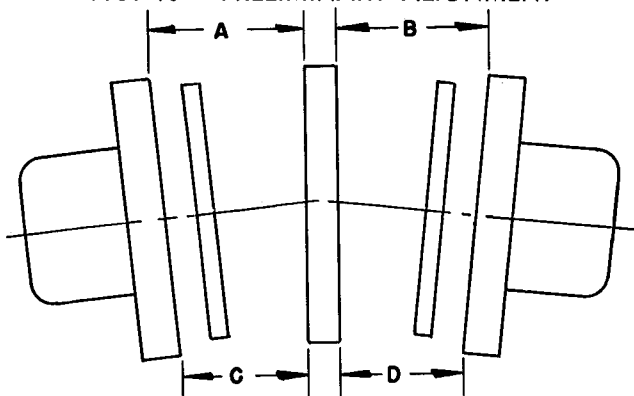
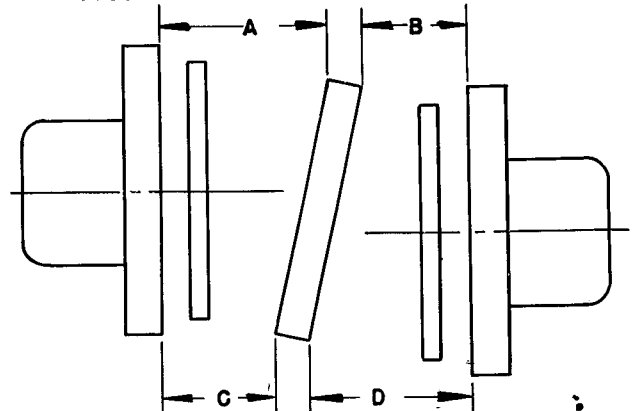

FIG. 11 — ANGULAR MISALIGNMENT
FIG. 12 — PARALLEL MISALIGNMENT
(K) If dimensions "A" and "B" are not equal to "C" and "D" angular mis-alignment exists as in Fig. 11. If dimensions "A" and "D" are not equal to "B" and "C", there is parallel mis-alignment as in Fig. 12. All measurements are made at the outside diameter of the flanges, using a caliper and steel rule. To correct either of these conditions, move and/or shim the motor or compressor as required. Since the compressor will be bolted and doweled to the steel base, it is suggested that only the motor be shimmed. For a duplex unit it is suggested that the motor be aligned to one compressor and the second compressor may be aligned to the motor. A convenient way to compare dimensions A, B, C, and D, is to set an inside caliper at the smaller of the two dimensions and then measure the extra width at the larger dimension with a feeler gauge. All final checks must be made with the motor and compressor hold-down bolts tight.